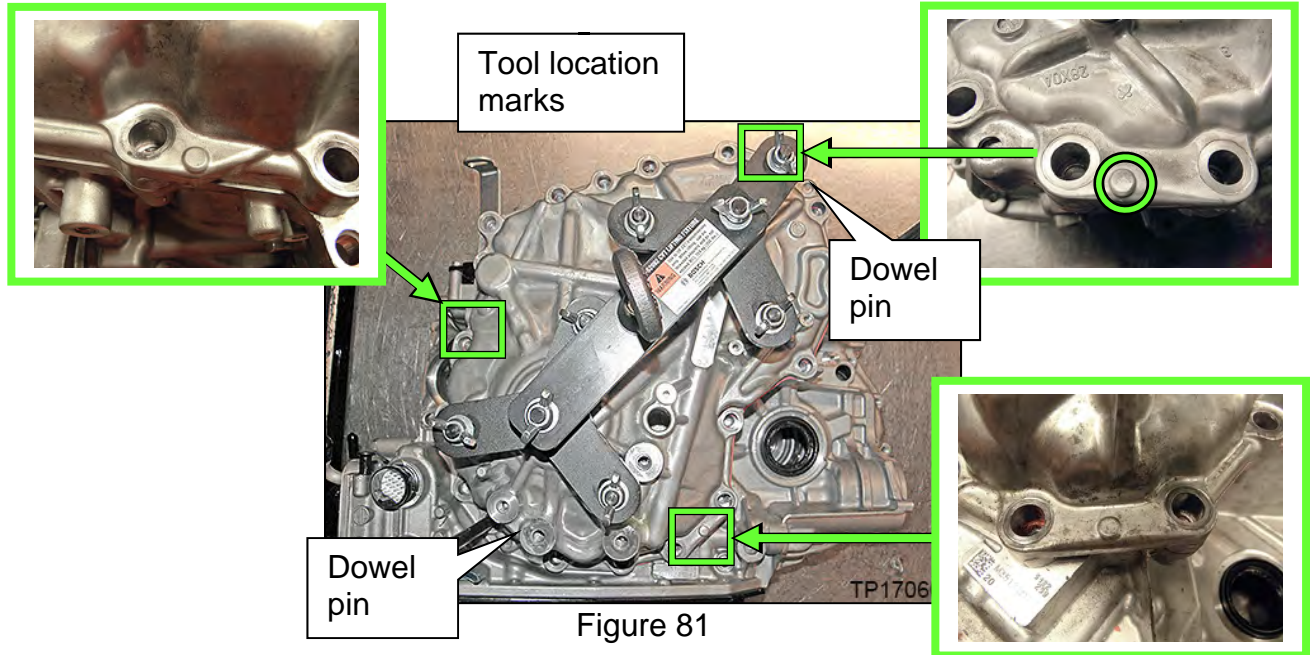

Figure 81
57. Loosen the side cover with a slide hammer at the three points shown in Figure 81.